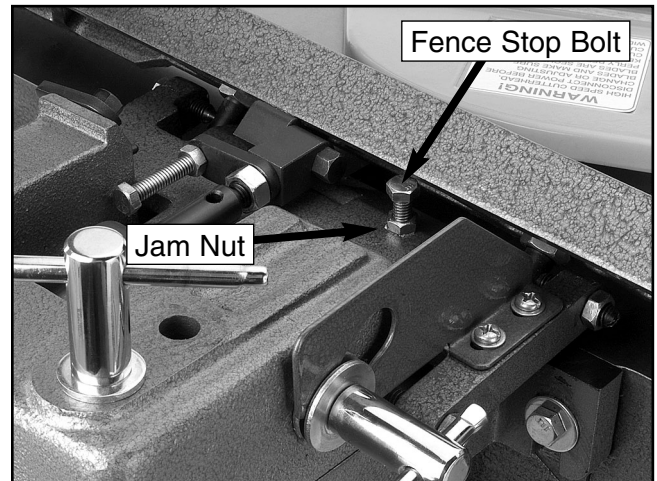

Figure 32. 45° outward fence stop jam nut.
2. Loosen the jam nut on the 45° outward fence stop bolt (**Figure 32**).